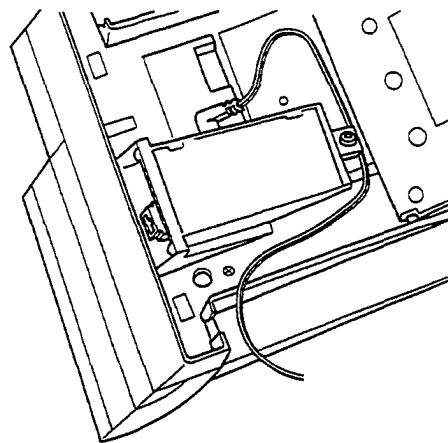

Figure 4-14 Leading the AC Adapter Cord out from the Unit
5. Plug the cord of the ACA-U Unit into the jack on the APR-U Unit. (The ACA-U Unit is a separate unit that can be purchased from NEC.) Lead the AC Adapter cord out through the groove in the base as shown in Figure 4-14 Leading the AC Adapter Cord out from the Unit.
When connecting the AC Adapter (ACA-U Unit), connect it to the device in the left side of the adapter bay. Refer to Figure 4-14 Leading the AC Adapter Cord out from the Unit. This allows the ACA-U Unit to supply power to all devices installed in the adapter bay.